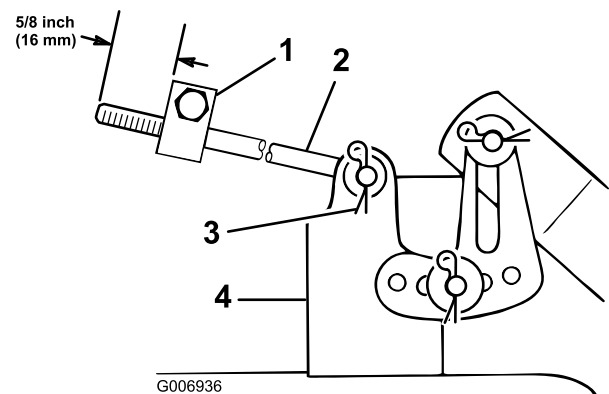

Figure 48
6. Measure the length of the rod extending out of the front of the adjusting block on the sides of the chassis (Figure 48). If the rod length is not 5/8 inch (16 mm), remove the hairpin cotter and washer from the end of the rod (Figure 48) and turn the rod until it extends out 5/8 inch (16 mm).